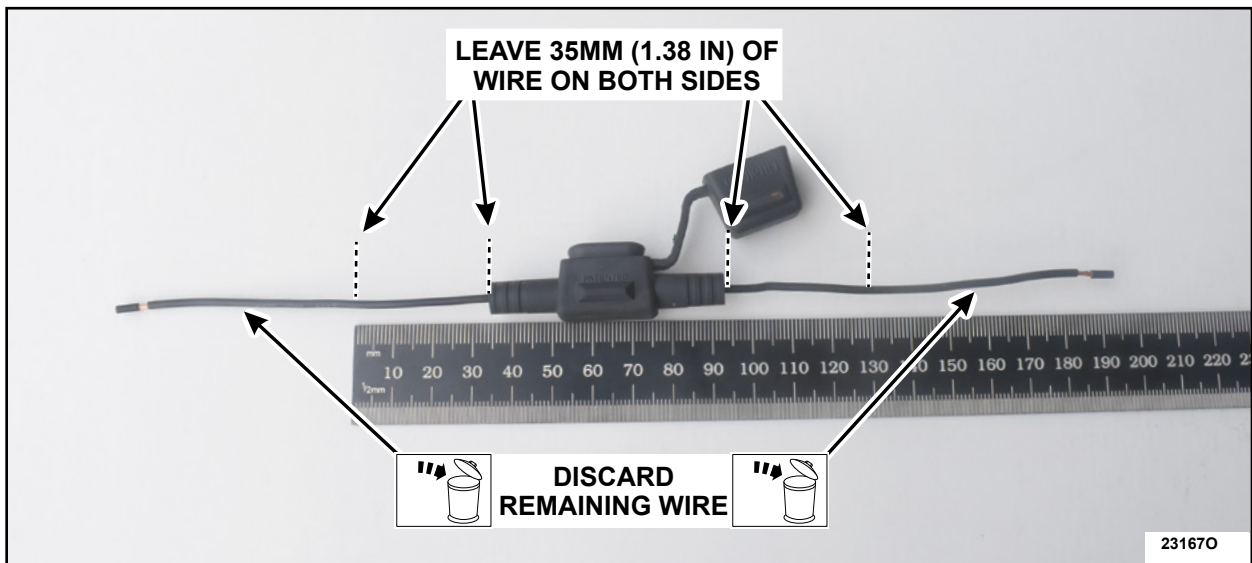

FIGURE 5
7. The *new* in-line fuse holder from the parts kit needs both wires cut back to 35mm (1.38 in) to fit within the 120mm (4.72 in) gap. Using a ruler, measure and cut so both wires extending from the in-line fuse holders rubber arms will equal the length of 35mm (1.38 in). Discard the remaining cut off ends. See Figure 5.